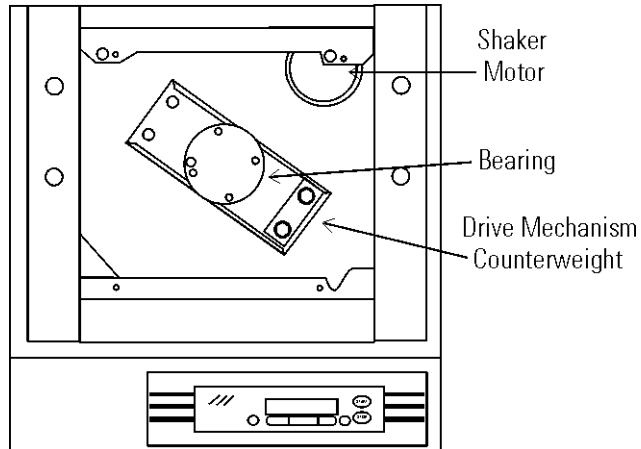

Figure 4-13. Motor, Bearing, and Counterweight Location
8. The mechanism will be accessible as shown in Figure 4-13.